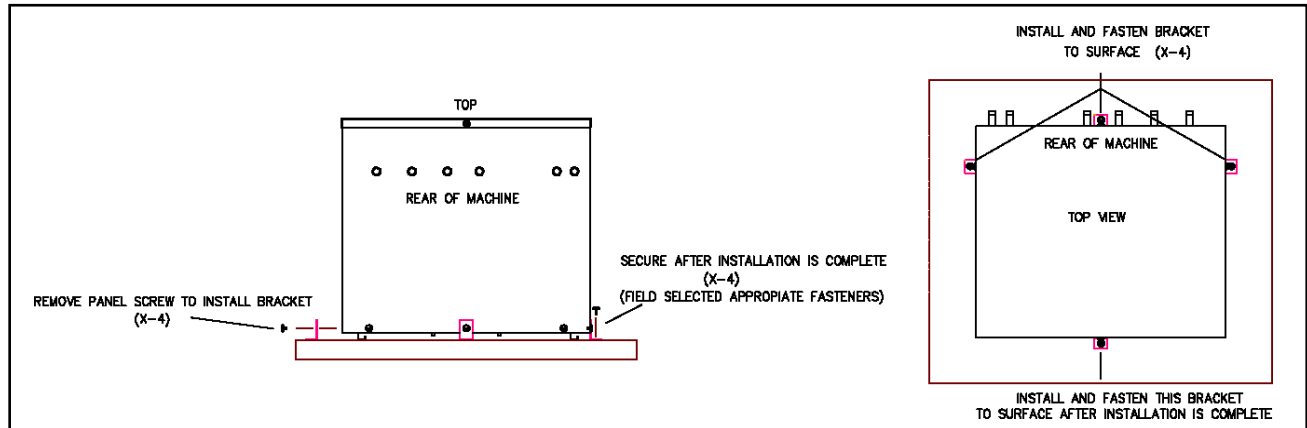

Figure 3. Compressor Unit Bracket Installation
- Total Green Mfg. compressor units may be located inside or outside. If outside, place compressor unit on a standard HVAC outdoor unit pad. If inside, place it on a level, hard surface. If the compressor unit is to be fastened down, see Figure 3 for bracket installation.